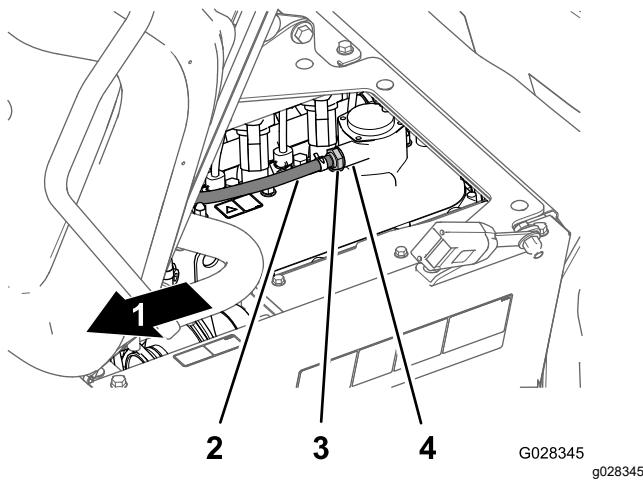

Figure 115
2. Remove the PCV valve from the fitting of the valve cover (Figure 115).
Note: If the internal restrictor of the valve rattles, the PCV valve is serviceable; if the internal restrictor is not free to rattle when shaken, replace the PCV valve (Figure 115).
4. Insert the PCV valve until it is fully seated in the seal for the valve-cover fitting (Figure 115).